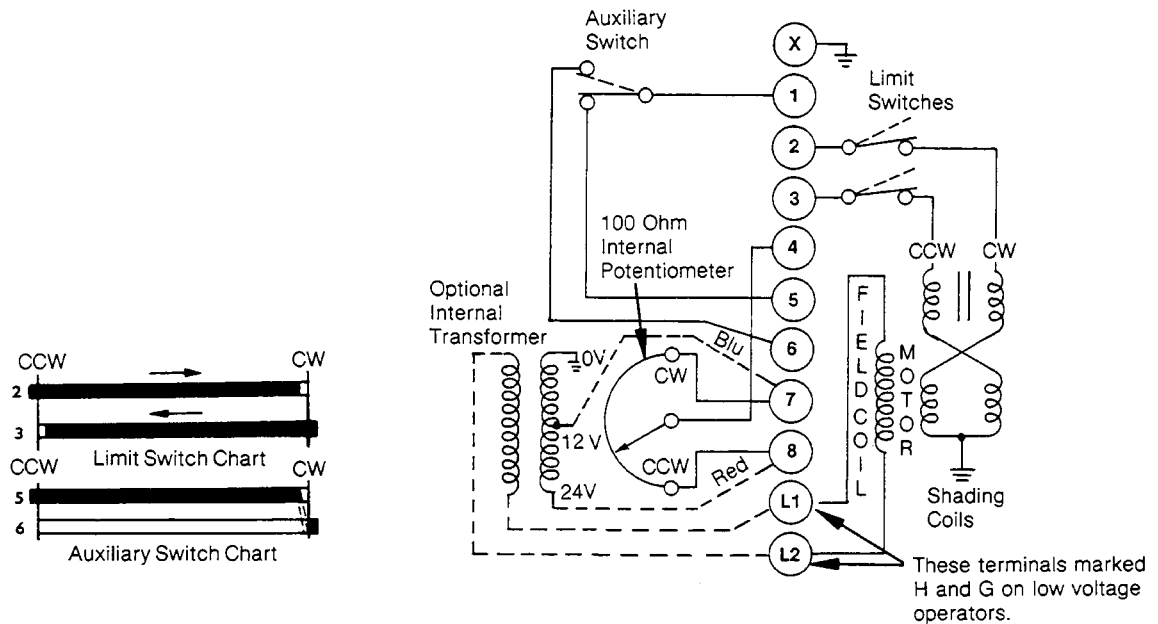

Figure-12 Proportional and Floating (All MP except -9700 Series). Internal wiring.
**MP-9700 Series** — Connect terminal 2 to case ground and actuator should run clockwise to end of travel. Connect terminal 3 to case ground and actuator should run counterclockwise to end of travel, Figure-12.